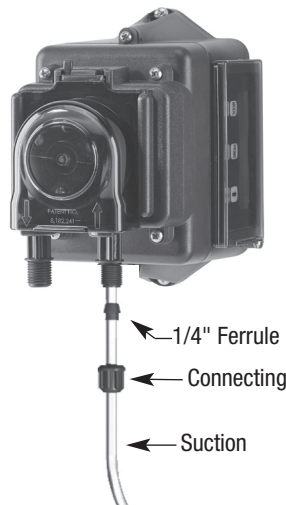

Fig. 2
4. Connect nut, ferrule, and lead tube to the suction side of the pump head (labeled "up" on the cover of the pump). Hand-tighten only. (Fig. 2)